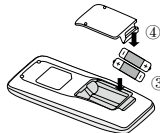

Fig.2
3. Place two 7# (AAA 1.5V) dry batteries, and make sure the position of “+” polar and “-” polar is correct (as shown in Fig 2 ③).
4. Reinstall the cover (as shown in Fig 2 ④).